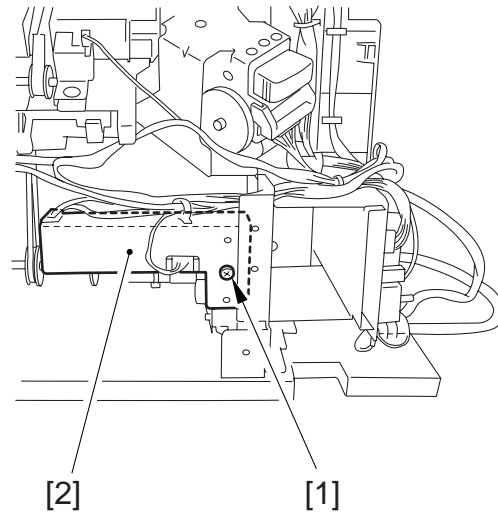

Figure 3-610
- 2) Remove the stack tray lifter motor clock sensor support plate. (Figure 3-610)